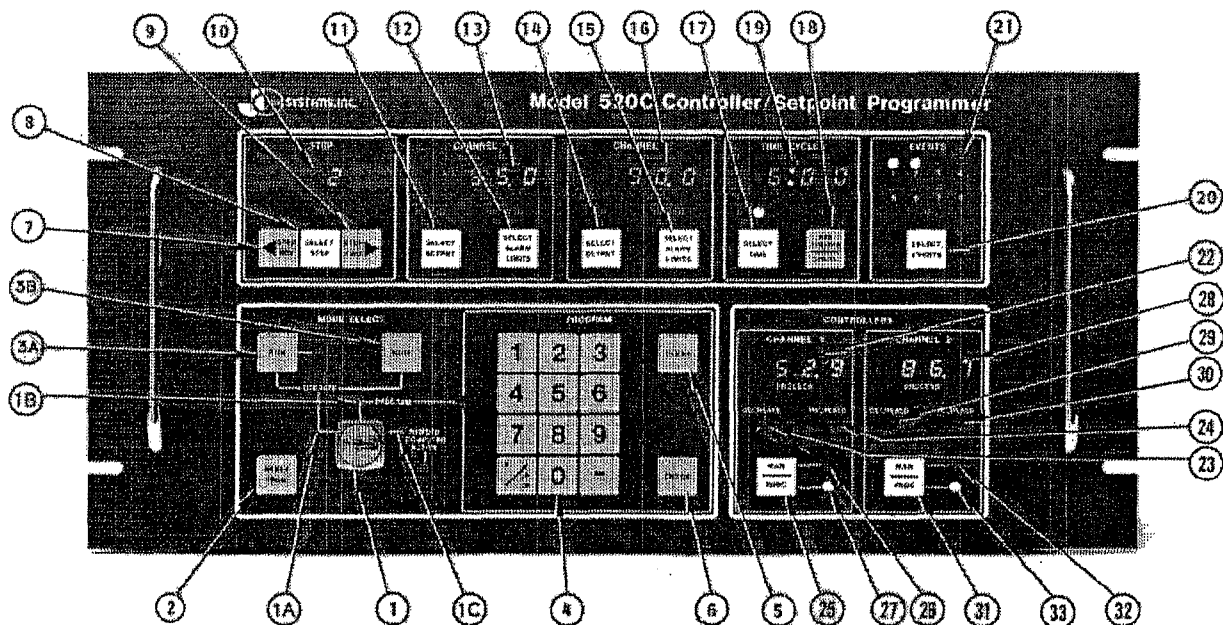

Figure 6-1. Front Panel Displays and Indicators.
1. Set keyswitch (Figure 6-1, Item 1) to PROGRAM.
2. Hold down the RESET PRGM button (2) while pressing the STOP button (3B). This automatically places you in turbo diagnostics at test code -591.6, the current HEAT proportional band setting, with the value displayed for each channel. If the diagnostic mode does not come up on test -591.6, the programmer is not equipped with turbo diagnostics. Proceed to Step 6.